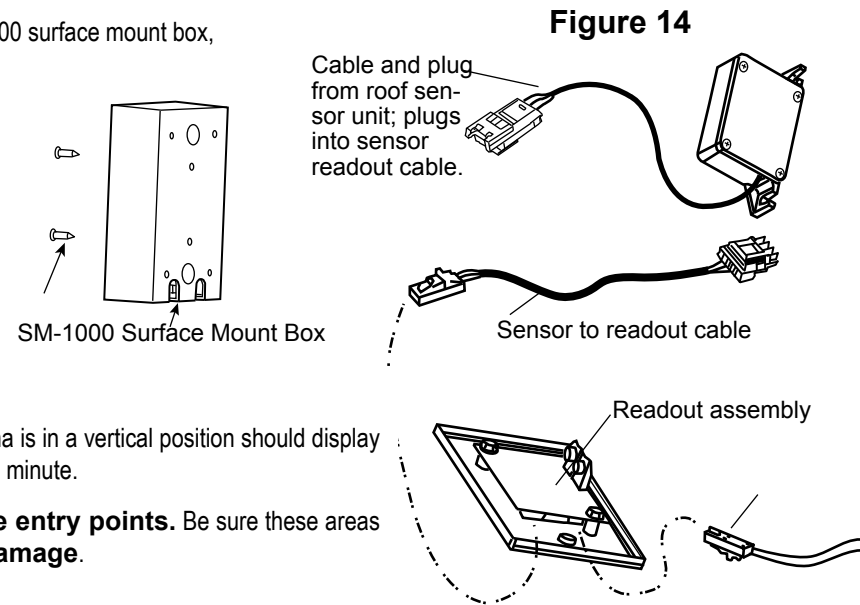

Figure 14
Step 12. See Figure 14. If using the SM-1000 surface mount box, feed cable through hole in box.